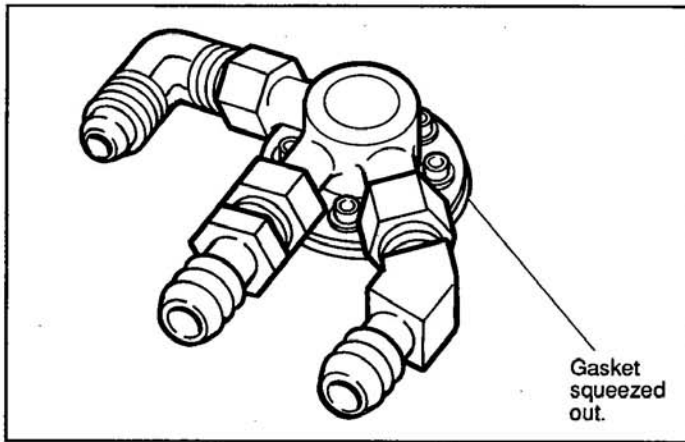

Fig. 14
24. Gradually tighten alternate bolts until they are all securely tightened and the gasket is partially "squeezed out" all around the mounting plate (torque the bolts to 90 in.-lbs maximum). See Fig. 14.